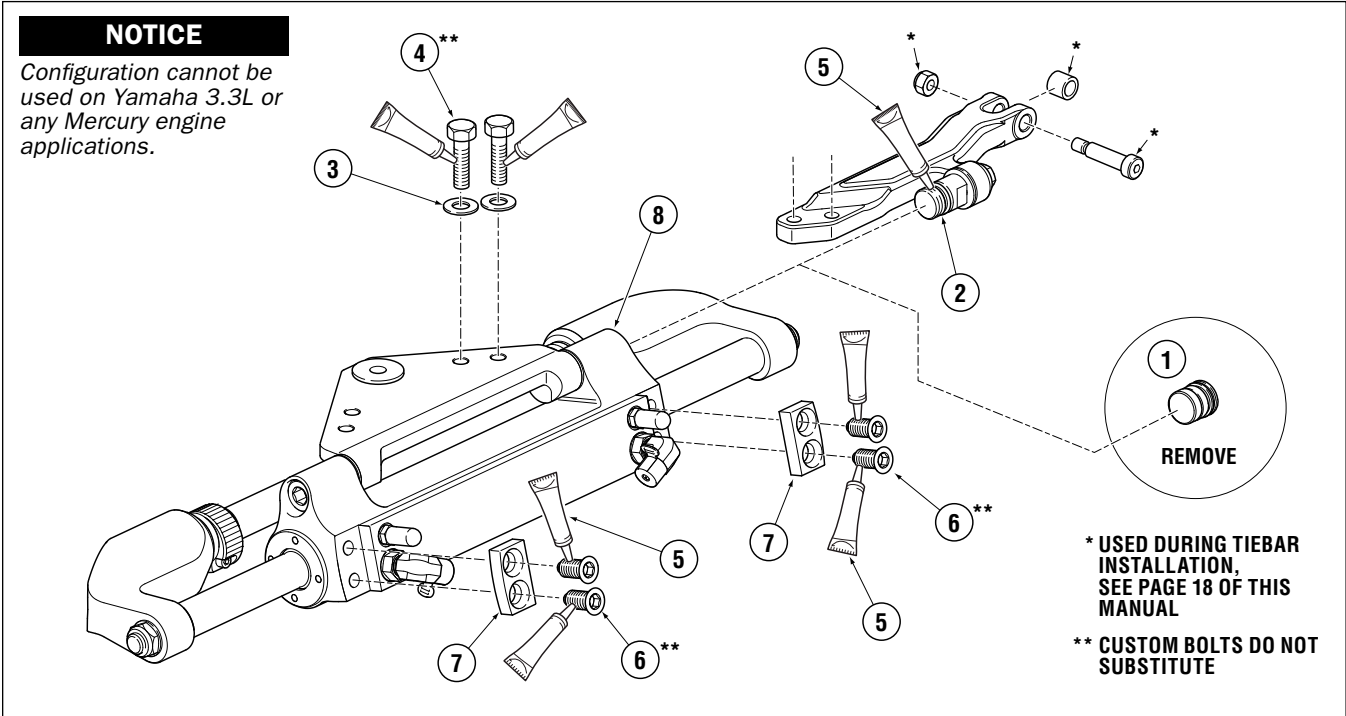

Figure 6. Twin Engine - Single Cylinder.
- Apply thread locker to the threads of item 4. Install washer and bolts torque to 20ft-lb.
- Apply thread locker (item 5) to the threads of item 6.
- Mount blanking pates (item 7) to both sides of the steering cylinder (item 8) as shown in figure 6.
- Torque bolts (item 6) to 50 ft-lb.